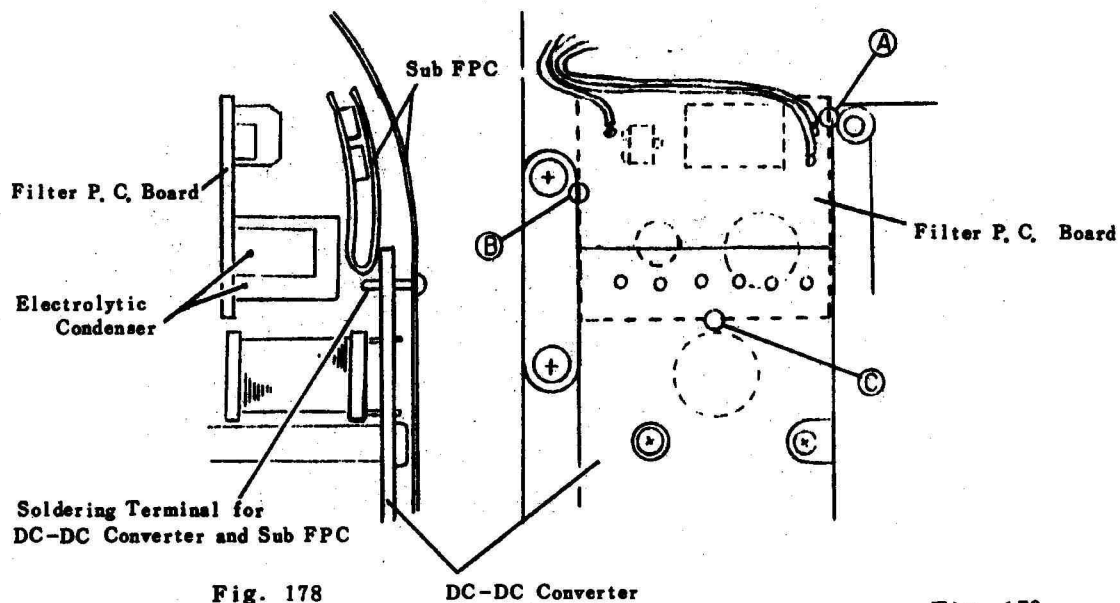

Fig. 178
1. Install the Filter S. C. Board as shown in Fig. 178.